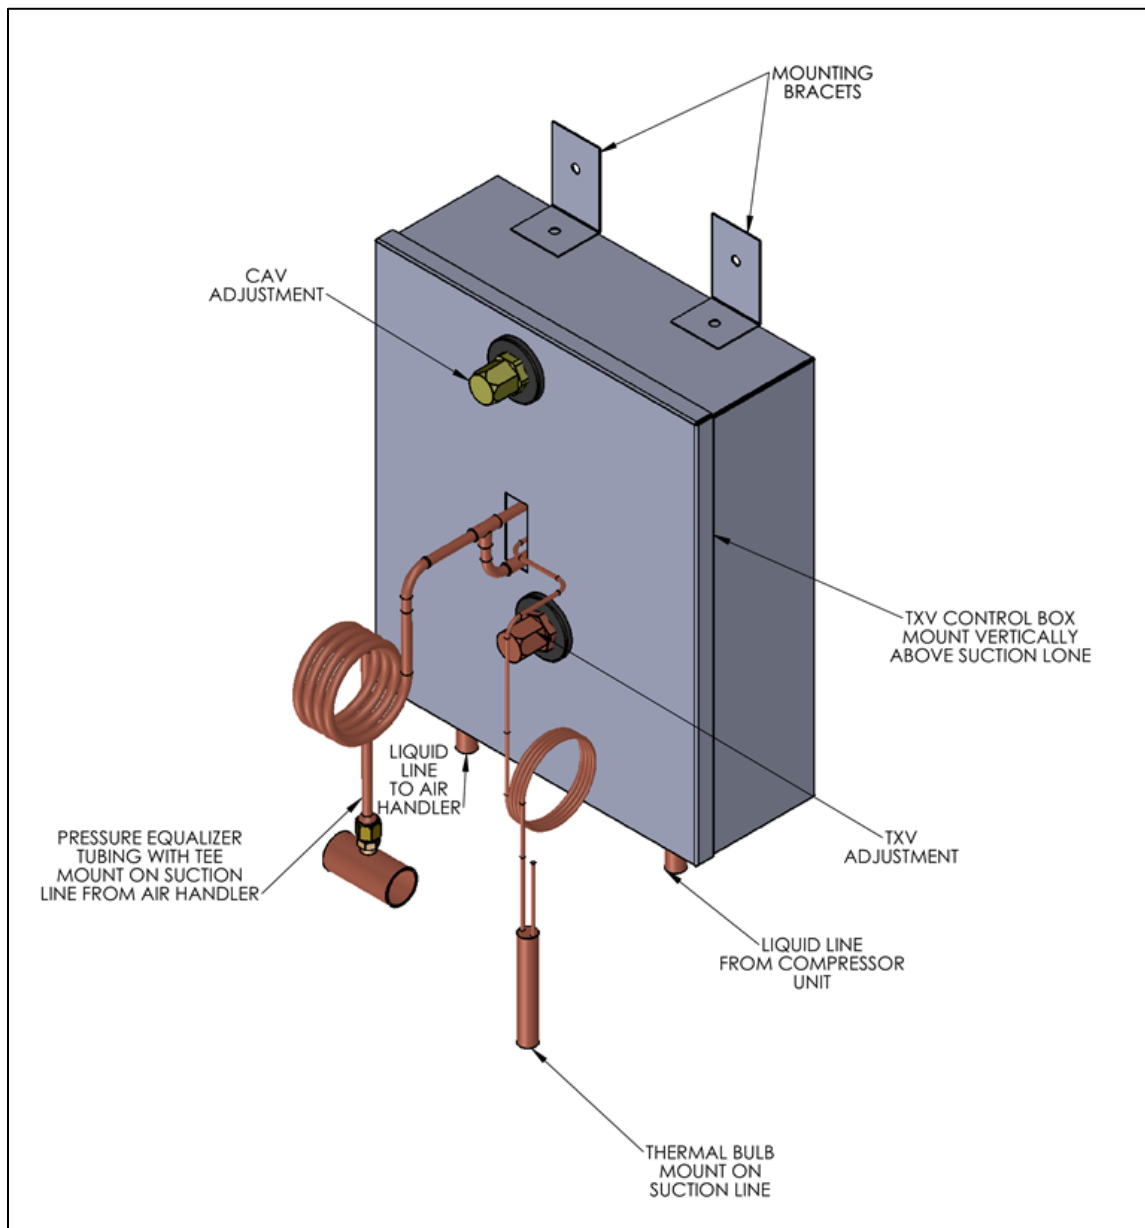
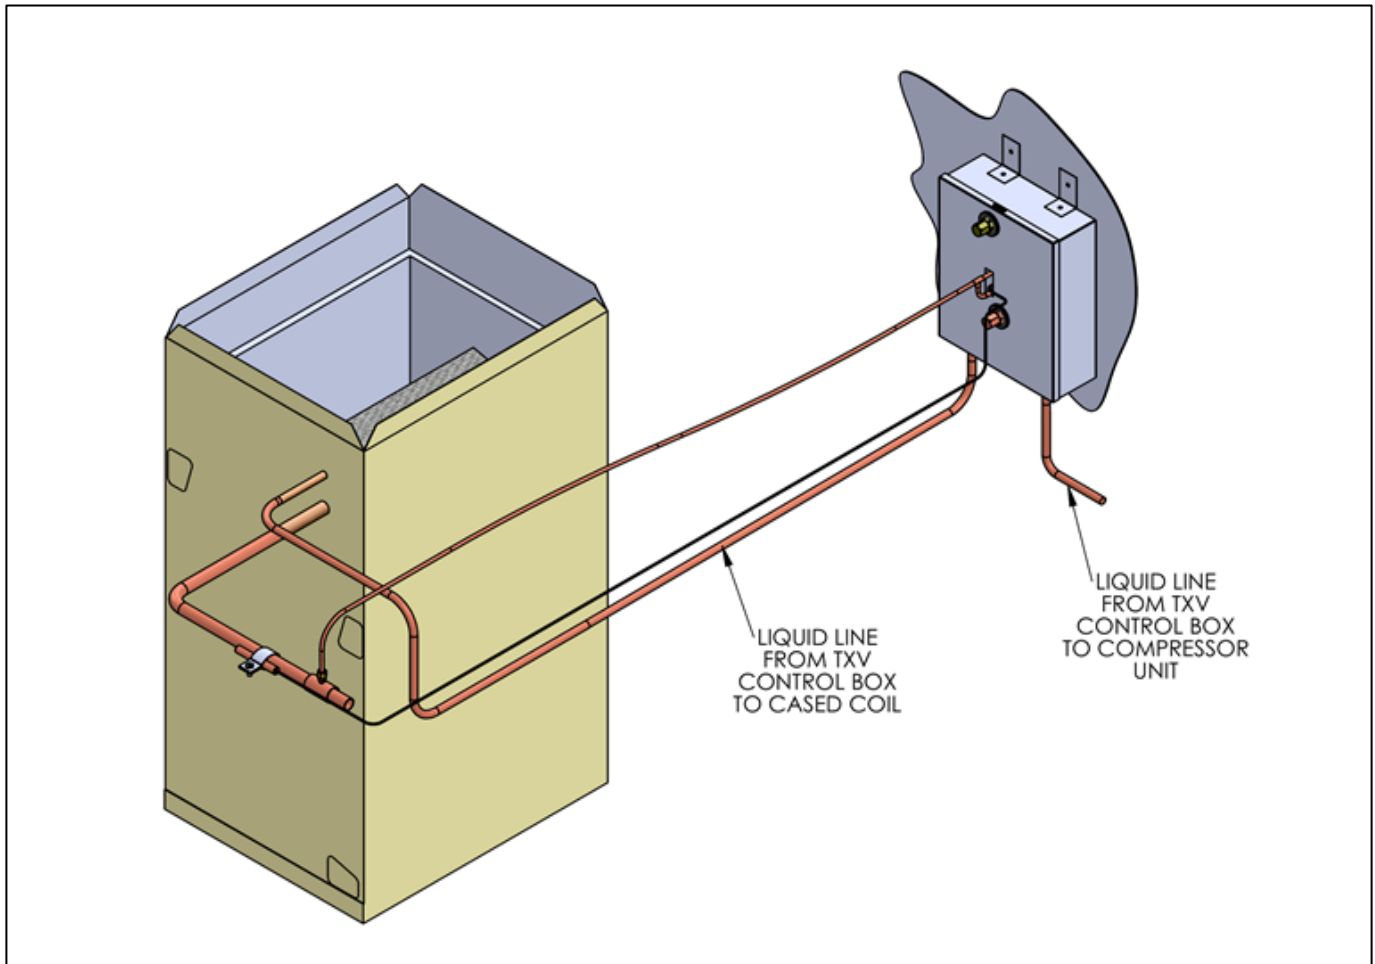

Figure 7. TXV Control
Figure 13. TXV Liquid Line Connections
Figure 7 illustrates the TXV Kit as shipped with the external parts for field installation identified. The TXV (thermal expansion valve), CAV (cooling assist valve) and interconnecting tubing are located inside the control box and foam insulated to ensure performance.
Step 5: Measure and cut copper tubing to connect the liquid line from the TXV control box to the liquid line stub out on the cased coil as shown in Figures 7 and 13. Run the other liquid line from the connection on the TXV control box to the compressor unit, also shown in Figure 13. Nitrogen braze the joints.